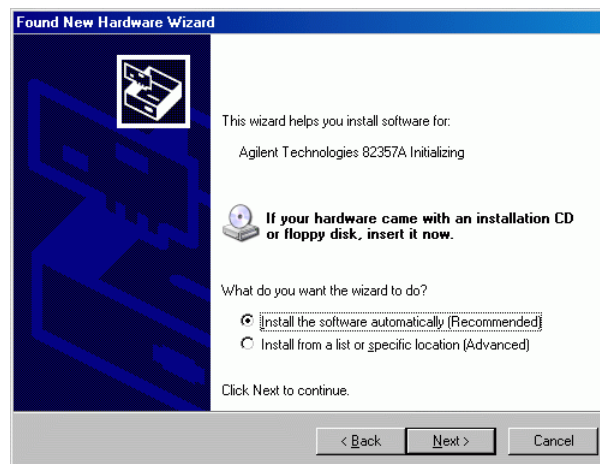

Figure 45 Found New Hardware Wizard Windows XP, second detection
- 9 Select **Option 1** and click **Next** to start the installation (see Figure 45)).